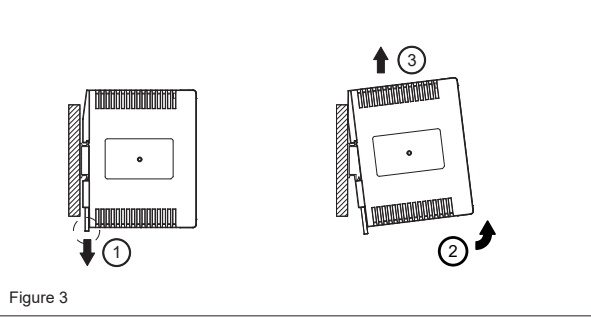

Figure 3
4. Demontage (Abb. 3)
4. Dismounting (Fig. 3)